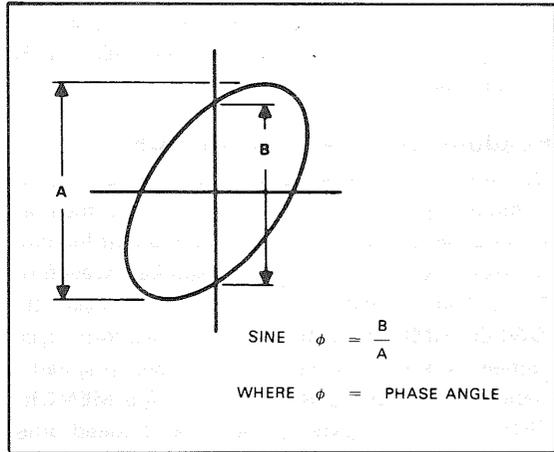
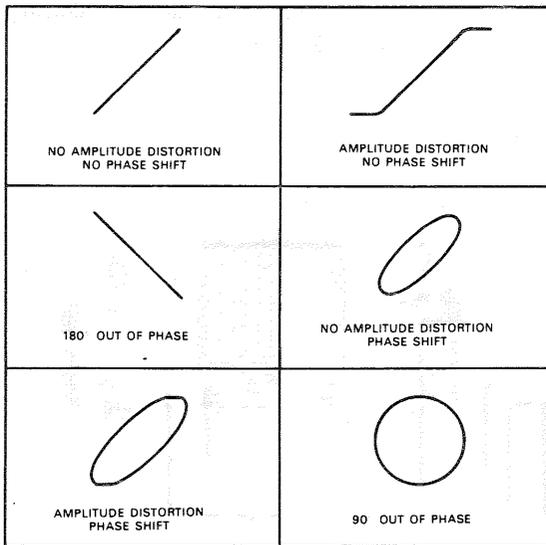

Fig. 9. Phase shift calculation
Fig. 8. Typical phase measurement oscilloscope displays
7. Some typical results are shown in Fig. 8. If the two signals are in phase, the oscilloscope trace is a straight line. If the vertical and horizontal gain are properly adjusted, this line is at 45° angle. A 90° phase shift produces a circular oscilloscope pattern. Phase shift of less (or more) than 90° produces an elliptical Lissajous' pattern. The amount of phase shift can be calculated by the method shown in Fig. 9.